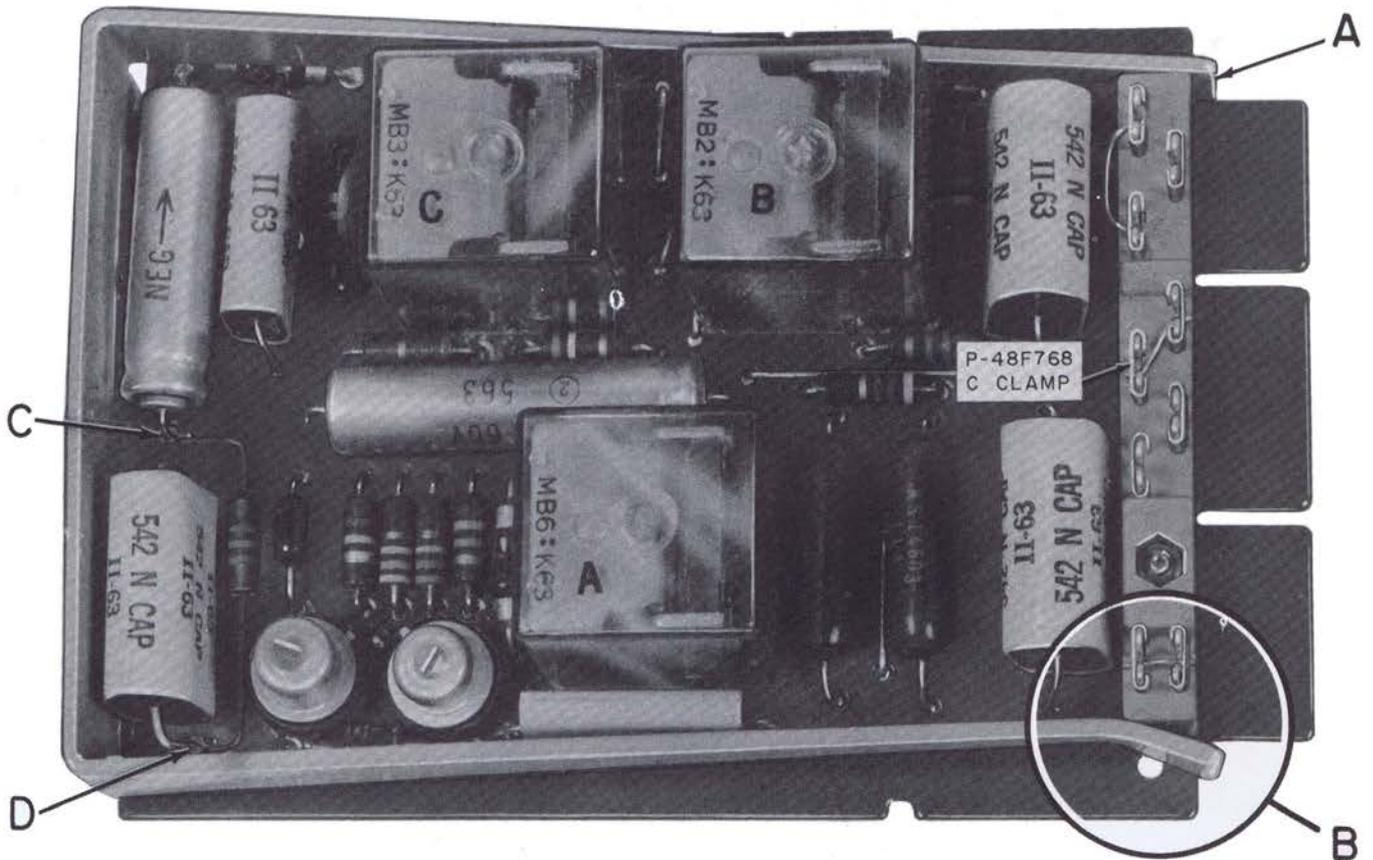
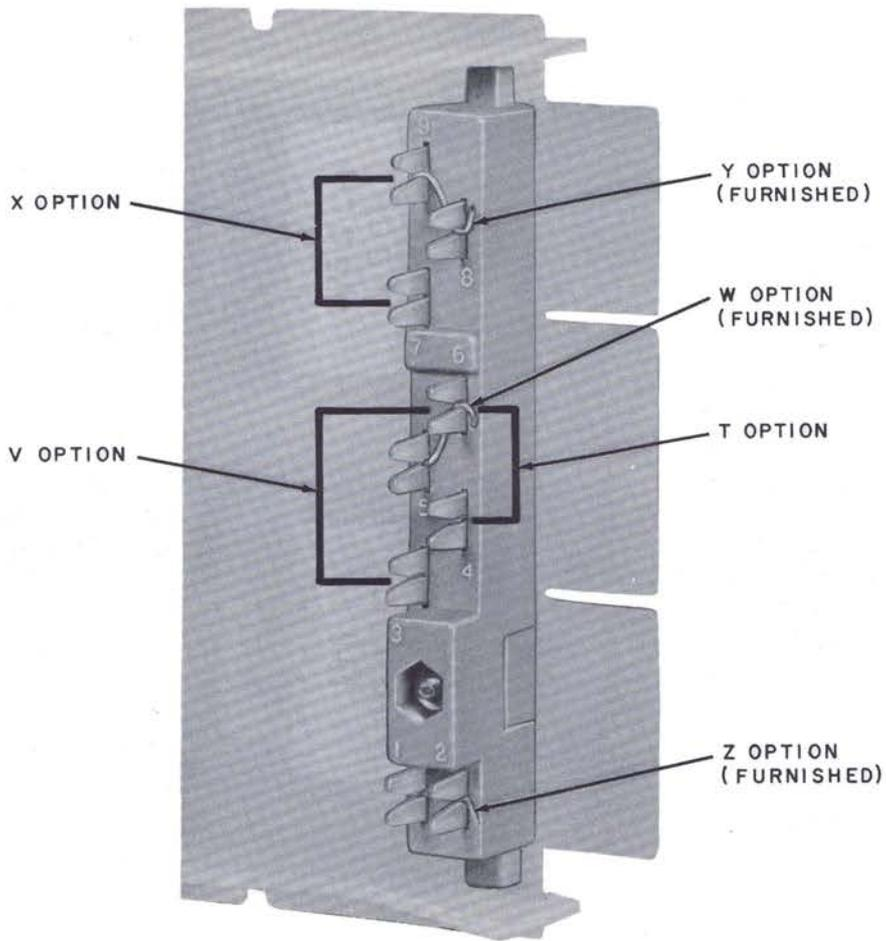

Fig. 4 — Modification of 400B or C KTU
Fig. 5 — Option Block, 400A, B, and C KTUs
3.02 On early production models of 400B and C KTUs, the wire clips on the option blocks require that small (P-48F768) C-clamps be slipped over the clips to assure option strap retention and good circuit continuity (Fig. 4).
3.03 Later production models of the 400B and C and all 400D KTUs are equipped with flat stamped option block terminals that do not require use of C-clamps (Fig. 5 and 6).
**3.08** To modify the 400B and C KTUs, connect a 1/2-watt, 100,000-ohm resistor electrically in parallel with the C5 capacitor. Physically, place, connect, and solder the resistor between points C and D as shown in Fig. 4.
5.02 Line circuit failure can occur as a result of improper seating of the 400B or C KTU in its receptacle. On early production models of these units, the ends of the U-shaped handle may strike the receptacle and prevent the unit from being fully seated (point A on Fig. 4). Should this condition exist, bend the outer ends of the handle sufficiently to permit passage over the ends of the receptacle (point B on Fig. 4). After bending, the arms of the handle should be sufficiently pretensioned (squeezed together at the base of the U) to rest snugly against the ends of the option block. Later models have the option block insert extended at each end sufficiently to hold unbent U-handle arms in order to allow proper insertion in a mounting receptacle. Handles should not be flared on these KTUs (see Fig. 5).